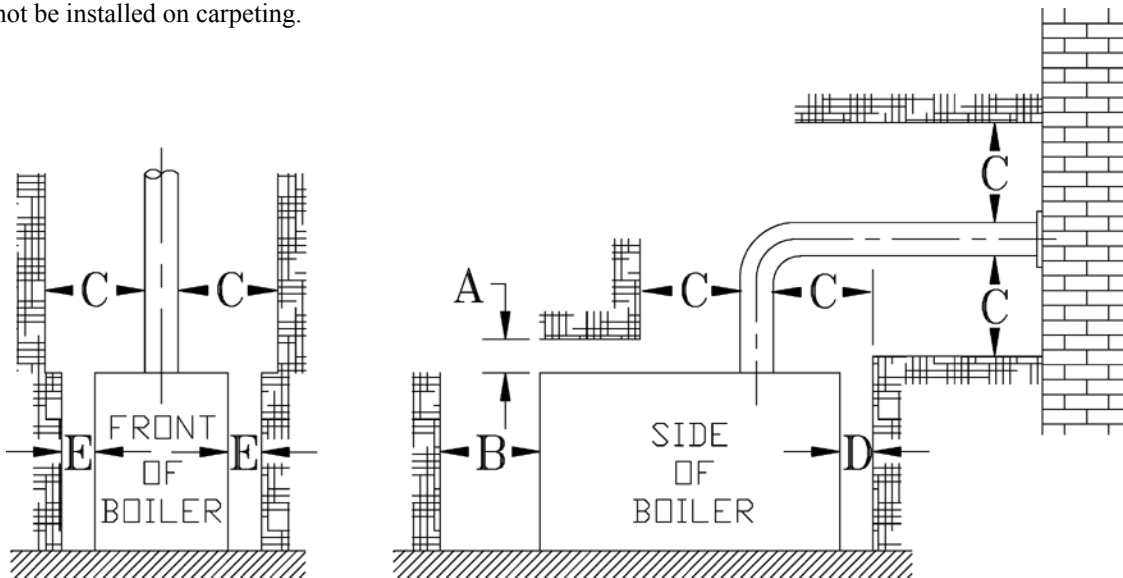

Figure 2: Minimum Installation Clearances to Combustible Materials (Inches)
5. For minimum clearances to combustible materials. See Figure 2.